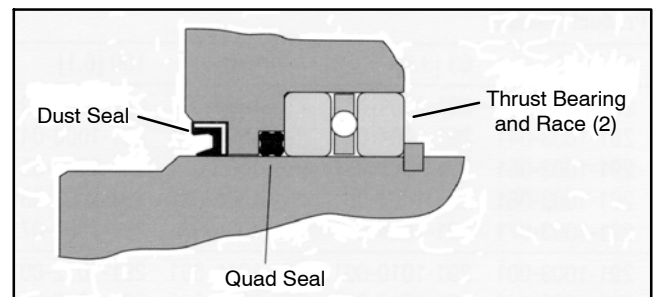

Figure 75
8. Put the thrust bearing and races into the housing. The thrust bearing goes between the two races (Fig. 75).